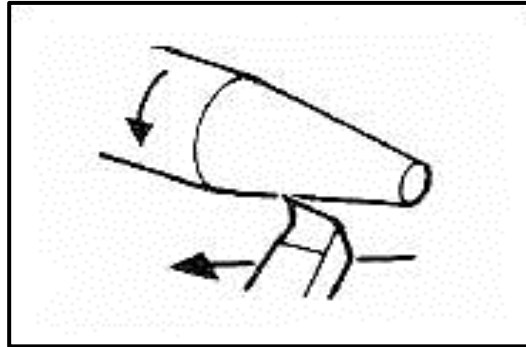

FIGURE 4.1
4.1 Which lathe operation is shown in FIGURE 4.1?